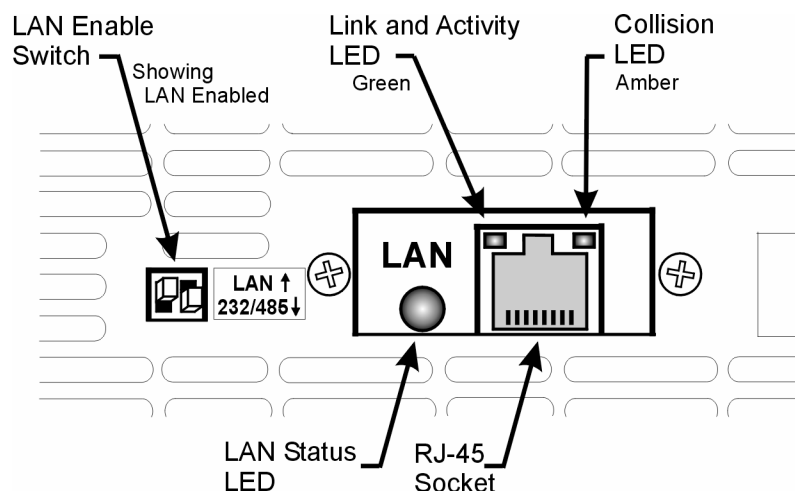

Figure 3. Rear Panel LAN Features
- B. Set the LAN card switch pin1 to DOWN (see Figure 3)
2. Set LAN card rear panel switch to UP (see Figure 3)
5. In about 10 seconds (for DHCP and static IP), or 30 seconds (for auto-IP), see on the rear-panel: (see Figure 3)